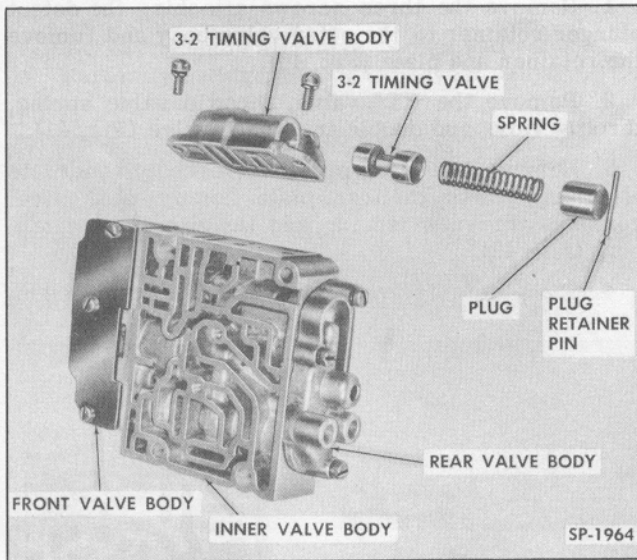

Fig. 32—Timing Valve Body Disassembled
2. Remove the timing valve plug retainer pin, timing valve plug, spring, and timing valve (Fig. 32).